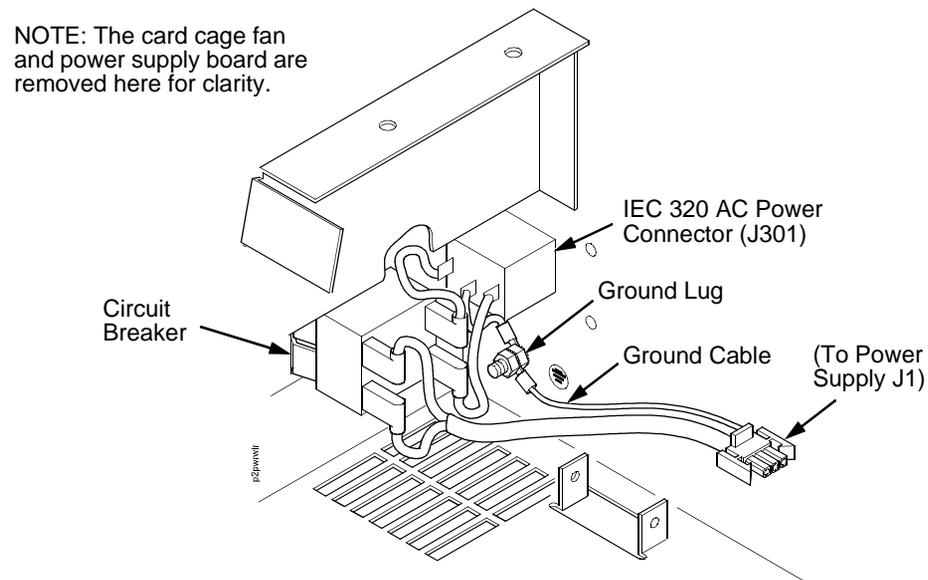

Figure 1. Circuit Breaker Ground, Cabinet Models
3. Make sure the ground cable from the circuit breaker power leads is undamaged and firmly attached to the ground lug on the wall of the card cage, as shown in Figure 1.